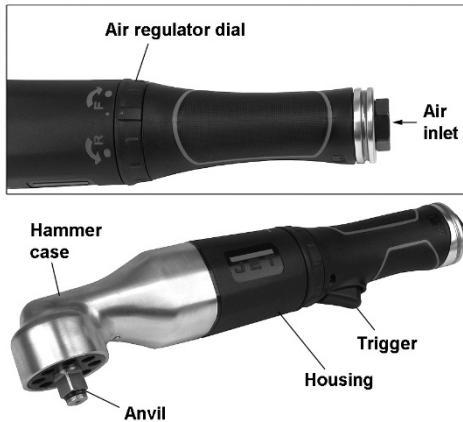

Figure 1
1. Remove protective cap from air inlet (Figure 1). If an in-line oiler is not being used, add 4 or 5 drops of air tool oil (not included) into the air inlet.
2. Place 4 or 5 drops of air tool oil into air inlet (A, Figure 1).